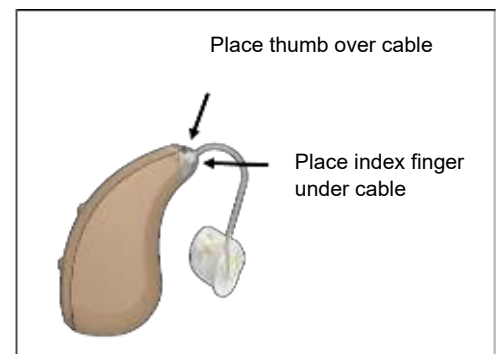

Figure 37. Ear Tip Removal
- Hold the Processor in one hand and with the other hand place your index finger under the cable where it connects to the Processor with the thumb on top of the cable (Figure 37).